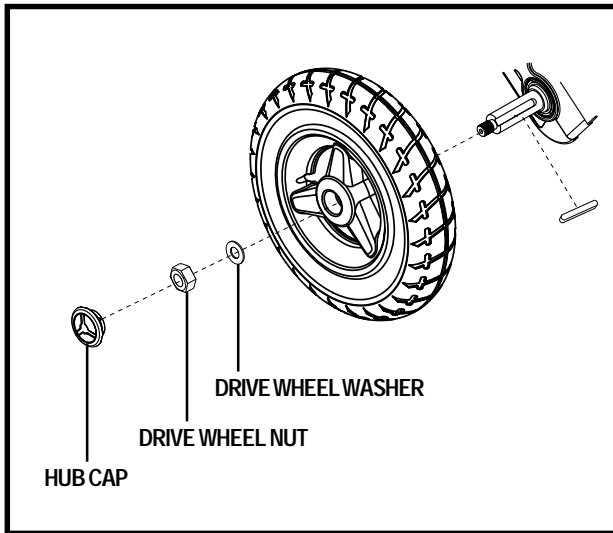

Figure 26. Wheel Removal
4. Pry off the hub cap. See figure 26.
5. Use a socket spanner to remove the drive wheel nut and washer from the axle. See figure 26.